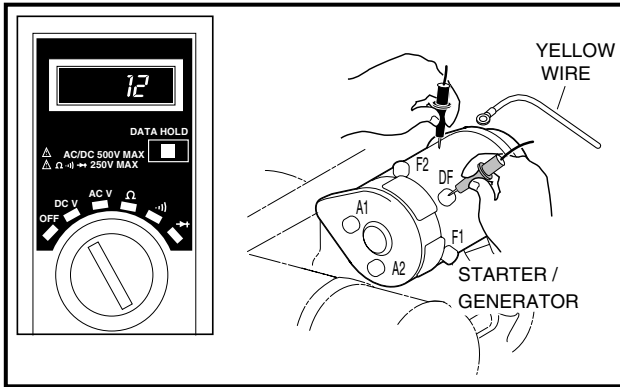

FIGURE 12-25
### Test Procedure 7 - Starter/Generator (Starter Function) (Figure 12-25, Page 100):
3. Disconnect the wires from all the terminals on the starter/generator. Then place the black (-) probe of a multimeter, set to ohms ( $\Omega$ ), on the starter/generator housing (scratch through the paint to insure a good ground). While holding the black probe against the housing, place the red (+) probe (one at a time) on the A1, A2, F1, F2 and DF terminals respectively (**Figure 12-25, Page 100**). The readings should be *no* continuity. If the readings are incorrect, the starter/generator will need to be removed from the vehicle and disassembled by a qualified technician (**See Removal of the Starter/Generator, Page 107**).